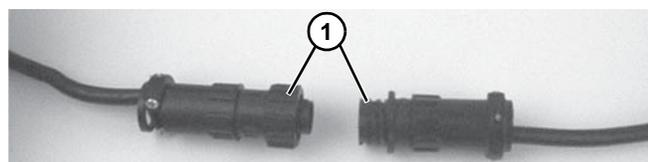

Figure 28
- For DC variable speed motor, unplug motor cord at disconnect (Figure 28, item 1).